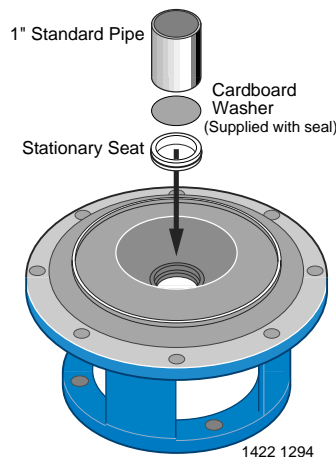

Figure 4
5. If seal does not seat after re-cleaning adapter/seal plate cavity, place a cardboard washer over polished face of seal and **carefully** press into place using a piece of 1" standard pipe as a press (Figure 4).